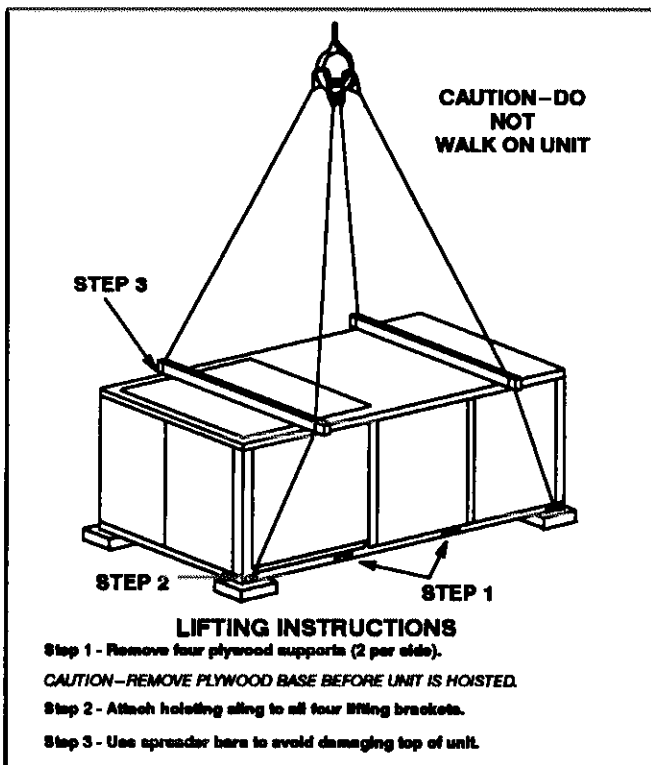

FIGURE 3
- 2- Rig unit with four lines as shown in figure 3.